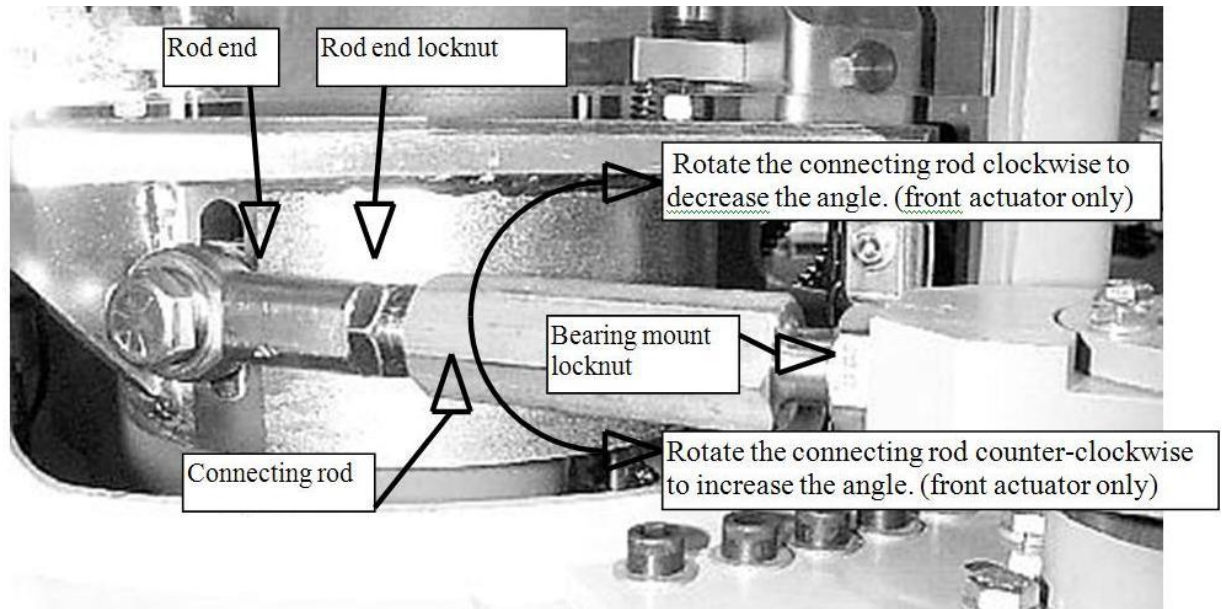

Figure 5.11: Front Actuator Connecting Rod Length Adjustment
- Following the steps outlined in section 5.5.6, Figure 5.11, loosen the rod end locknut while holding the rod end in place with the 1", 90° open end wrench.